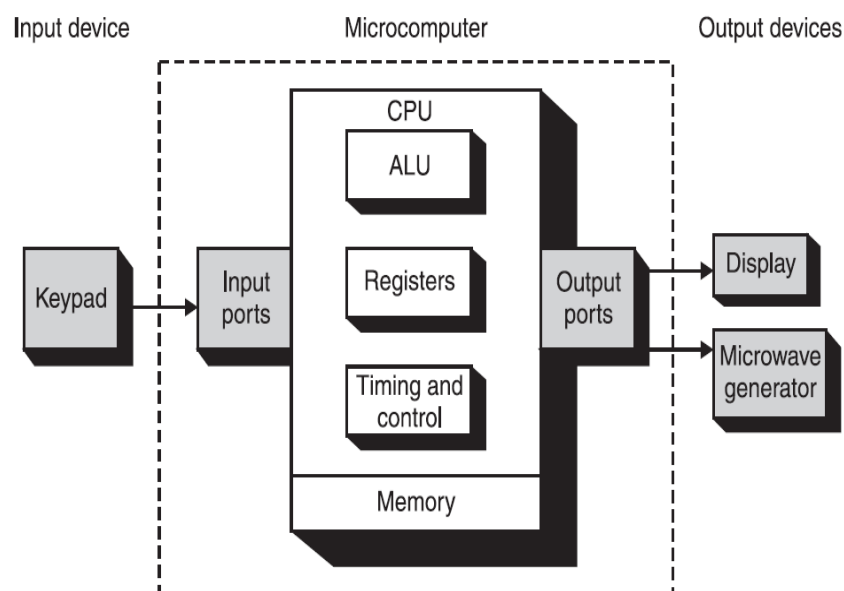

Fig. 1.6 Single-chip microcontroller block diagram
5. A very typical application of an embedded microprocessor is a microwave oven control system. A block diagram of such a system is shown in Fig. 1.6.